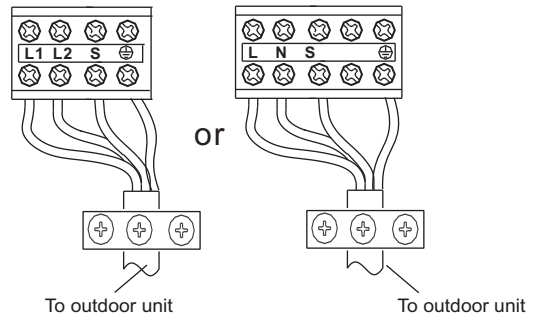

Fig.22
2. Lift the indoor unit panel up, remove the electrical box cover by loosening the screw as shown in Fig.22.